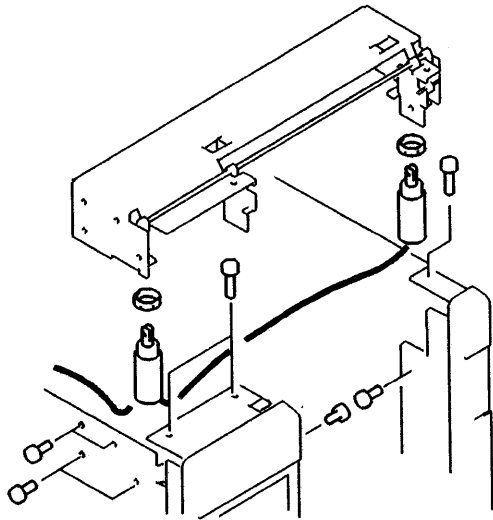

Figure 11-1. Door Latch with Connecting Bar
- Two solenoids and a connecting bar were used to operate the door latch mechanism (see figure 11-1).